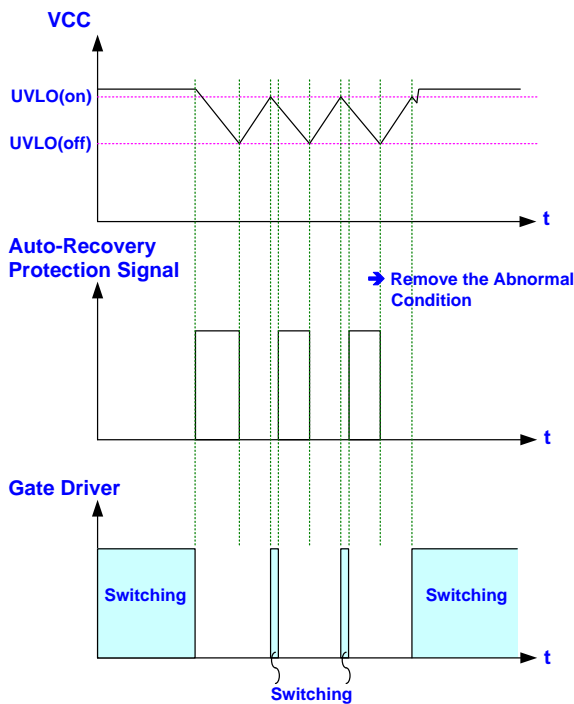

Fig 29.
the gate output will switch for a short term as every time VCC rises back to UVLO(ON). It therefore forces the VCC hiccup between UVLO(ON) and UVLO(OFF). As soon as the fault condition is removed, the system will resume its operation right away. Fig 29 shows the operation.